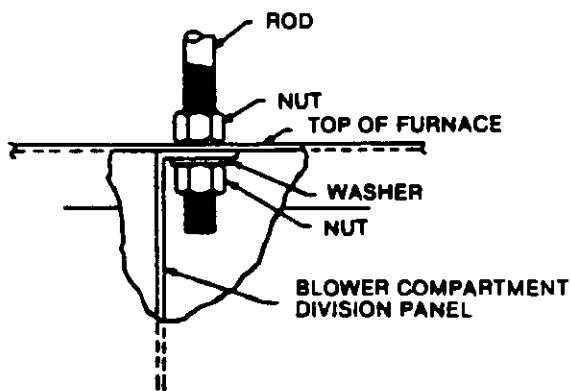

Figure 1—Hanger Rod Installation
When the furnace is to be suspended, remove knockouts in top of panel at warm air discharge and at blower panel. Use 3/8" threaded rods cut to desirable length. Use one (1) flat washer and two (2) nuts on each rod. One (1) nut on inside of unit, the other nut on outside of unit. This will be the locking nut. Unit can be leveled with the nuts on the inside. See Fig. 1.